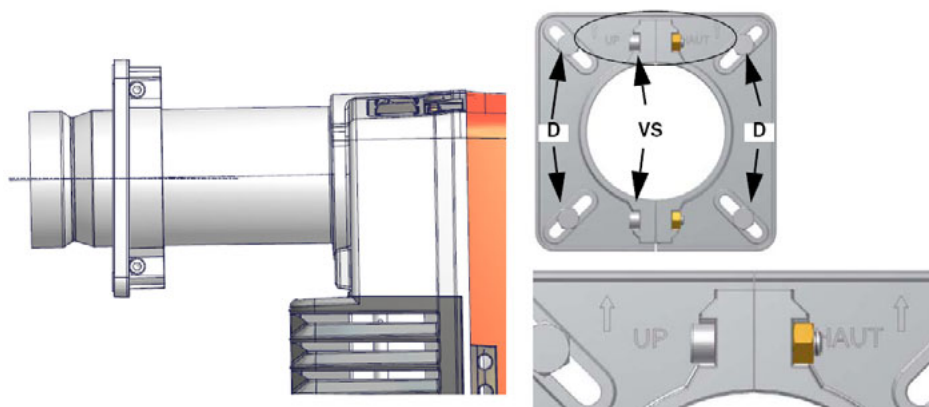

Fig. 2
In the "Performance curve" diagram (Fig. 2), draw a vertical line matching the furnace input value and an horizontal line matching the backpressure value. The burner is suitable if the intersection point A is inside the performance curve.
- 4 according to the reference showed on Fig. 2, fix the flange to the boiler's stud bolts D, without completely fastening;